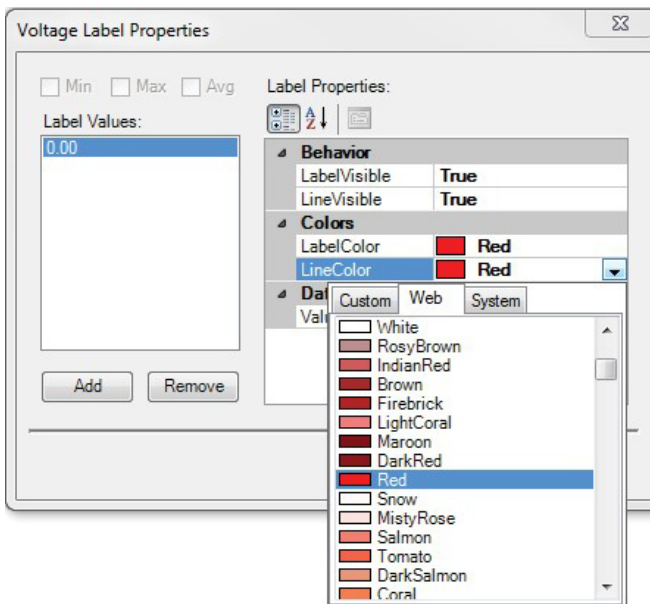
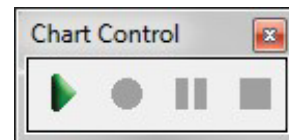

Figure 11: Color Drop down Menu Used to Change Label & Line Colors
Figure 18: Auxiliary Chart Control Window
9. Repeat for "-100", i.e., enter "-100" in the **Data Value** section. Open the **Color** drop-down menu and select Blue. -100 will appear in the **Label Values** window. See Figure 11. Click **OK** and your plotting chart resembles Figure 18.
2. Select **Chart Control** (see Figure 18)